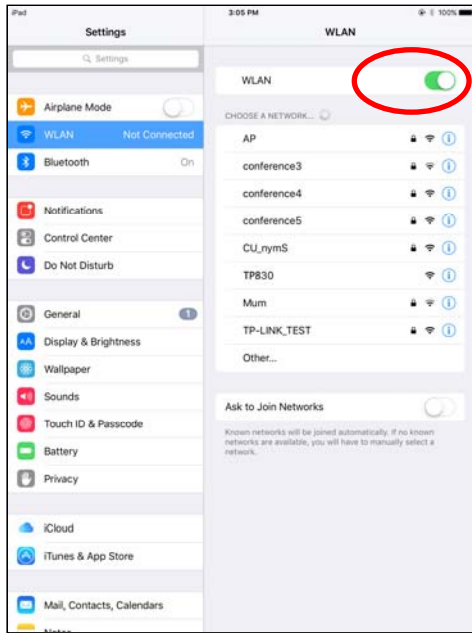

Figure 35
1.3 Turn on the "WLAN" function, equipment will search automatically and show the current hotspot, as shown in Figure 35.